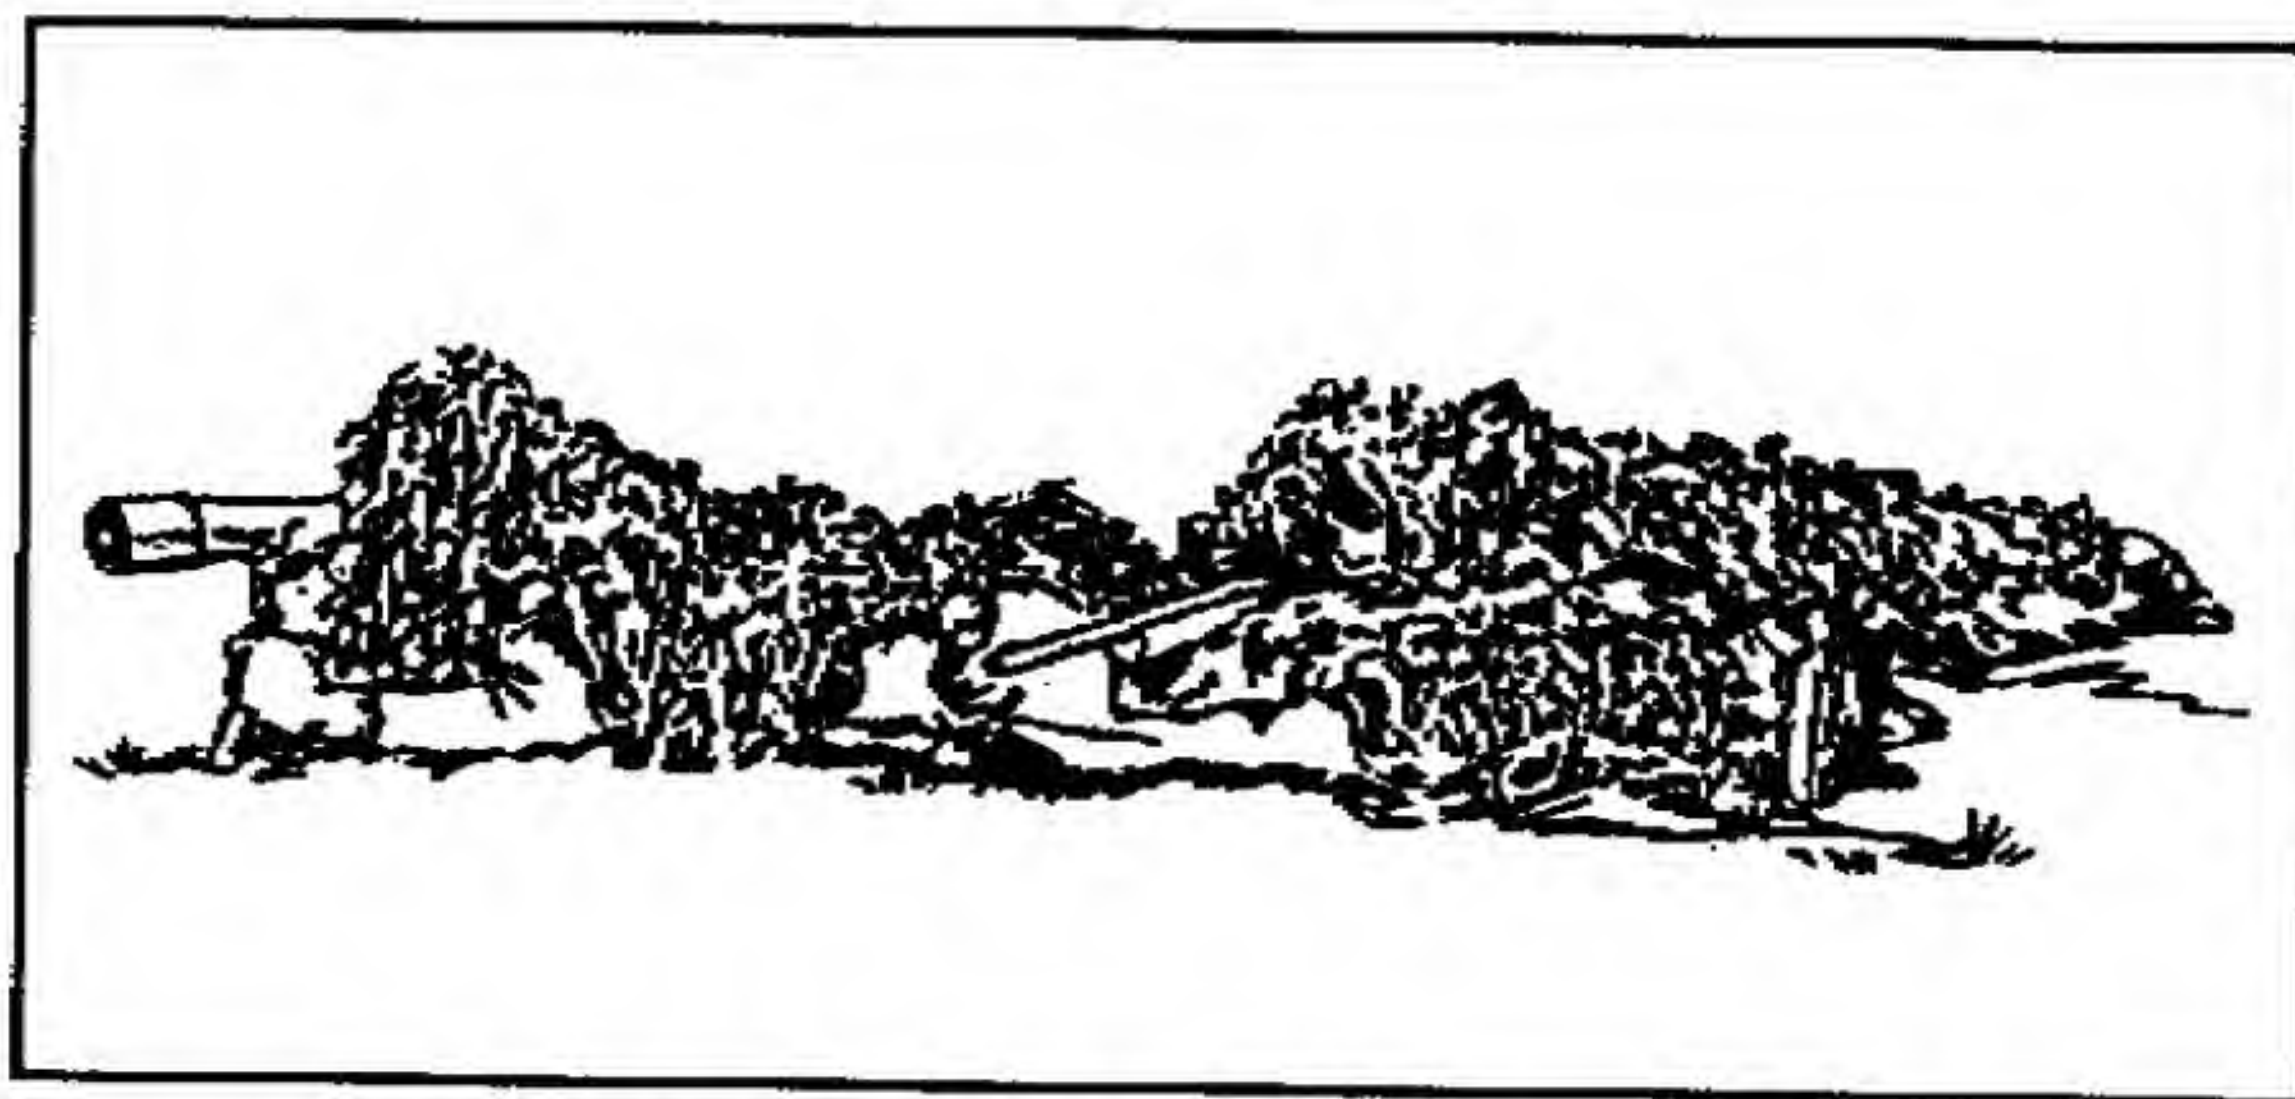

Figure 3-14. Prone observer supported position.
(2) If the sniper is without weapon support in his position, he uses the observer's body as a support (Figure 3-14). This support is not recommended since the sniper must contend with his own movement and the observer's body movement. The sniper should practice and prepare to use an observer supported position. A variety of positions can be used; however, the two most stable are when the observer is in a prone or sitting position.